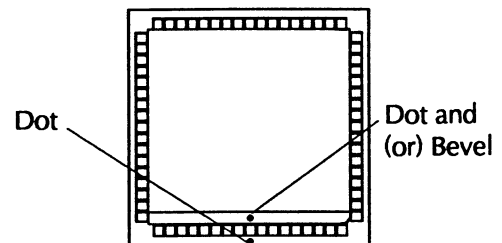

Figure 4 HT2000 Firmware 081004 (shown in socket)
- a. Orient firmware by aligning dot and bevel on IC (indicating pin 1) to dot on socket. (Some firmware has only a bevel indicating the side where pin 1 is located.) See Figure 4. Be careful not to bend any pins during installation.